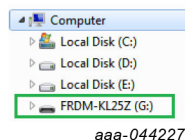

Figure 30. FRDM-KL25Z in left pane
- The FRDM-KL25Z device appears on the left pane of the File Explorer as pictured in Figure 30.